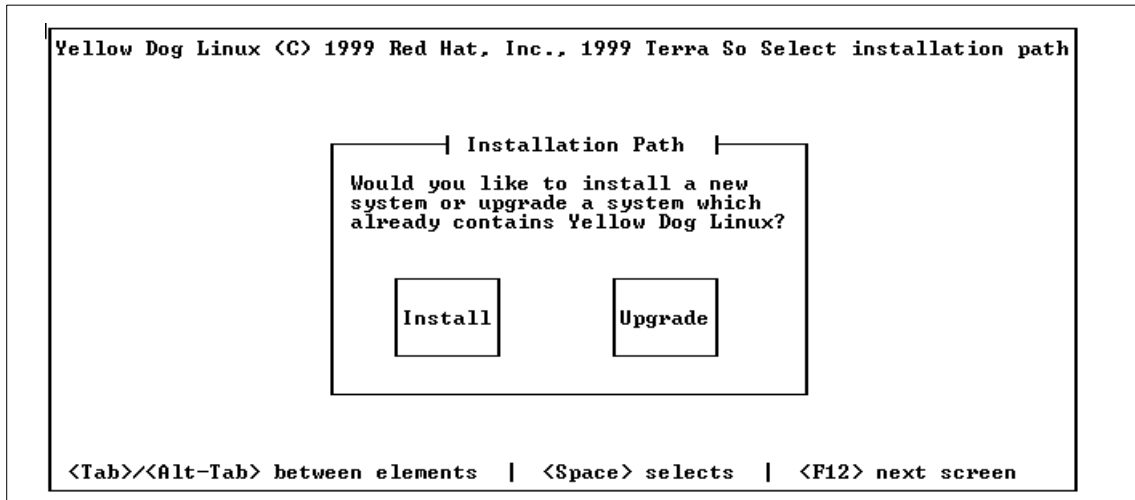

Figure 31. Install/Upgrade Selection
10. Select Install or Upgrade. We selected **Install** as shown in Figure 31.